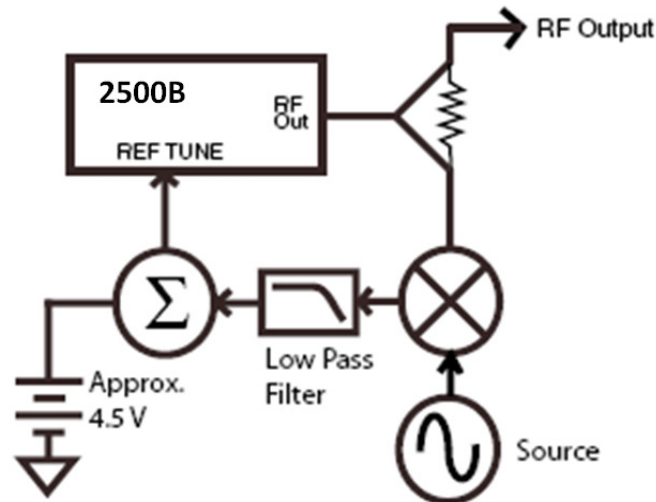

Figure 42: Reference Tune Setup
**Why use this procedure:** Use this function when you want to phase-lock the output frequency of the 2500B with a stable, external frequency source. See Figure 42 below.